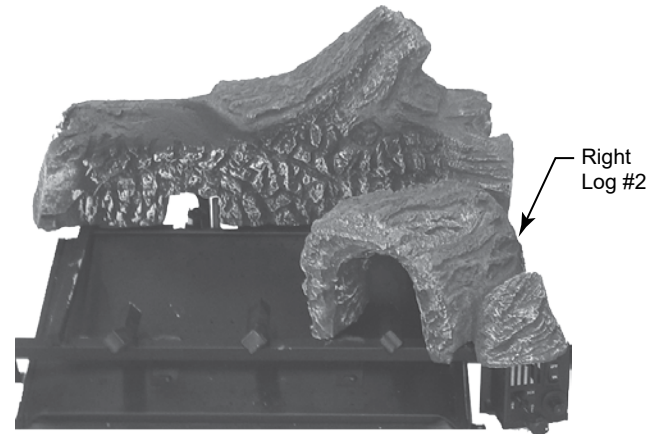
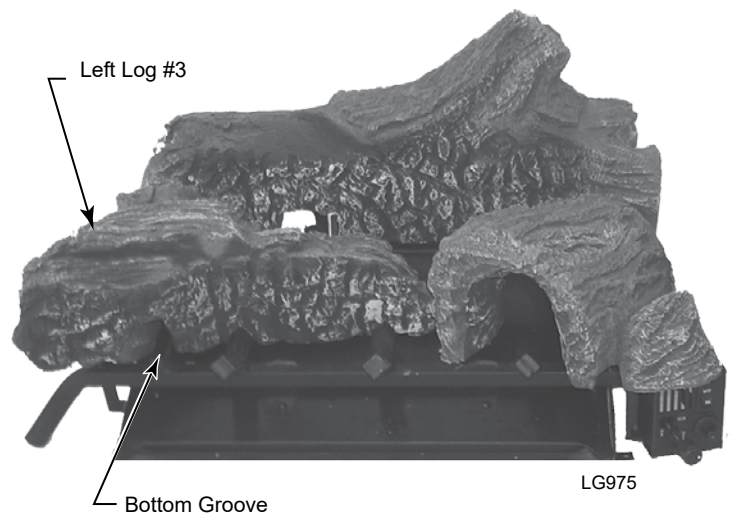

**Figure 9**
**Figure 10**
1. Install the rear log (#1) on the two locating pins of base. *Figure 9*. Visually check to verify the log is securely placed on the pins and in contact with the grate. *Figure 10*